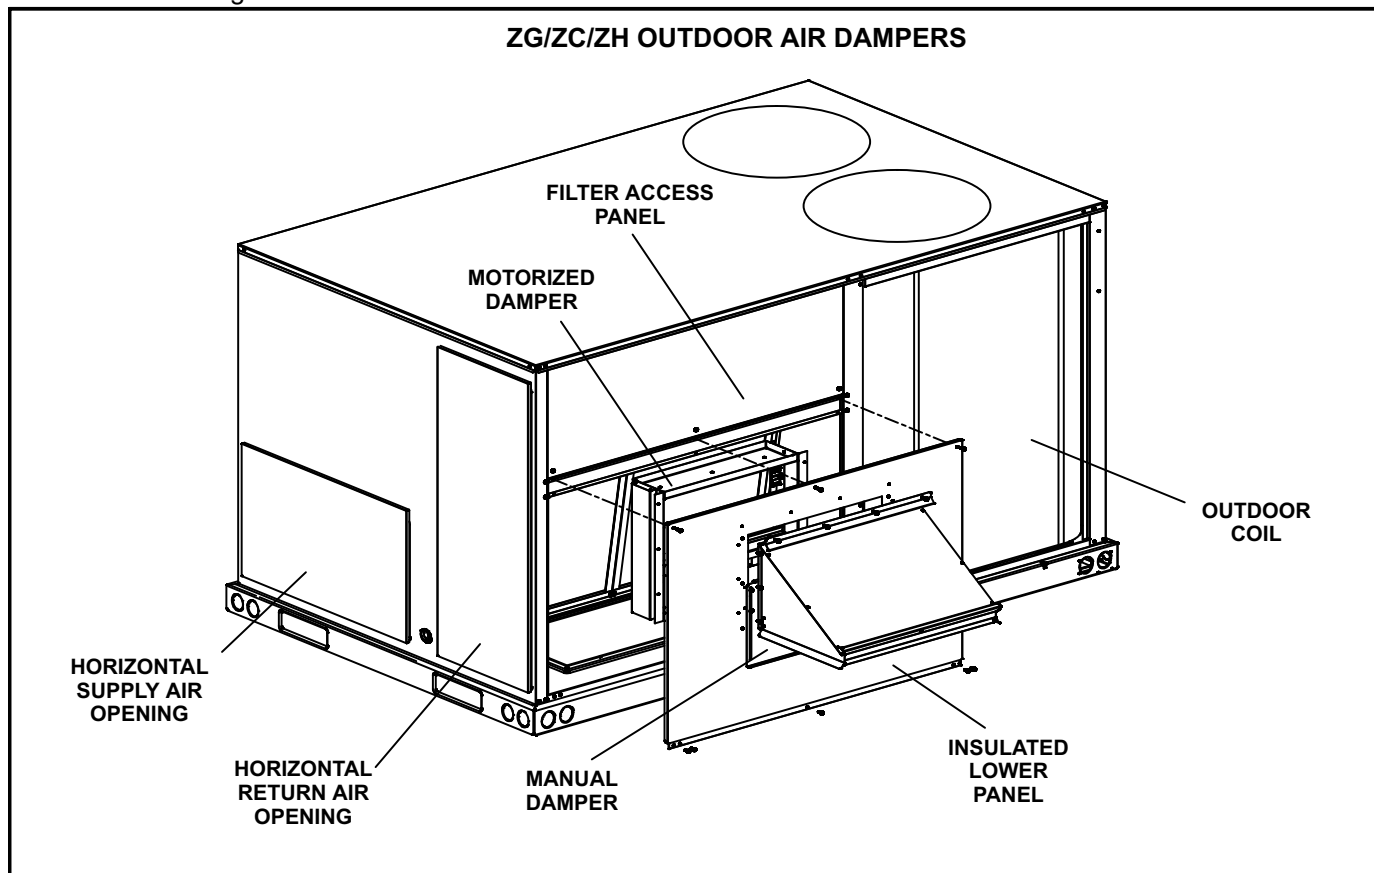

FIGURE 9
- 5- Secure the motorized damper to the insulated lower panel using #10 screws provided. See figure 9.
- 2- Remove filter and lower access panel on the back of the unit. See figure 9.
- 4- Install the manual damper on the lower panel. See figure 9. Slide the manual damper in the cover panel slots as needed.